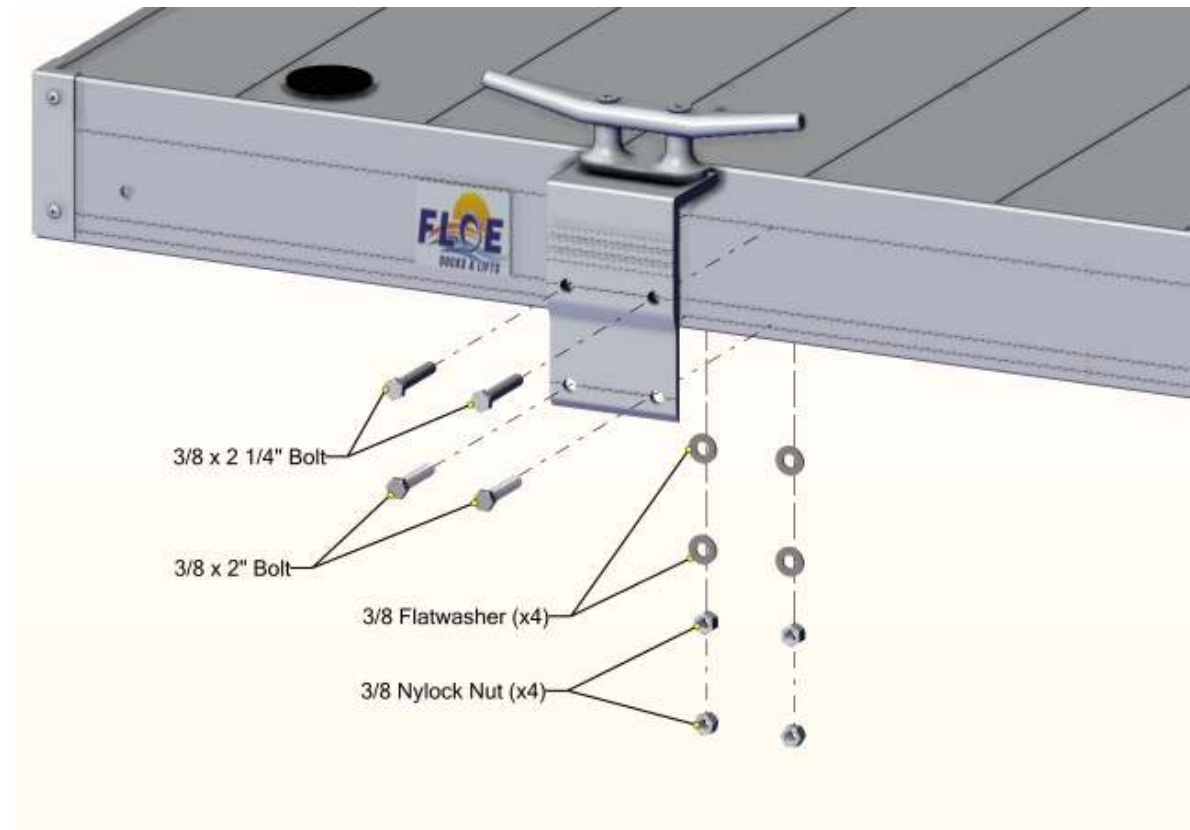

FIG. 4
Insert (2) 3/8" x 2 1/4" bolts in the top holes and (2) 3/8" x 2" bolts in the bottom holes of the angle bracket and insert through the side of the dock. Place (4) flatwashers over the bolts and thread on (4) nylock nuts. Torque to 40 ft/lbs. See Fig 4.